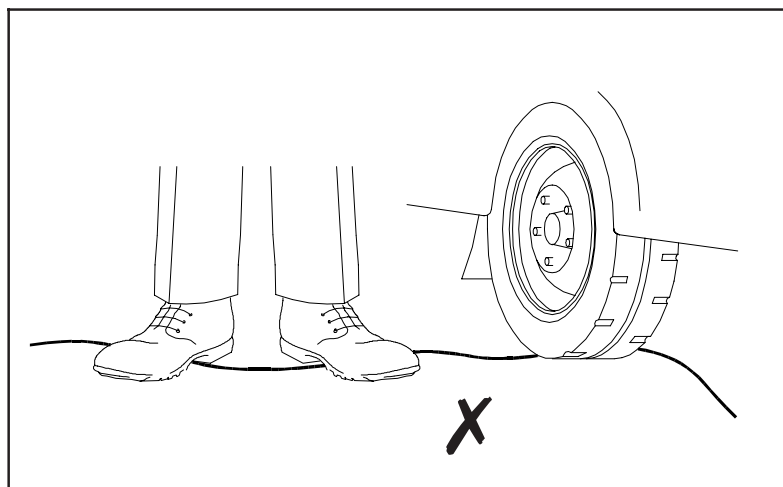

Figure 2
2. Sensor cable deployed and ready for fixing to a fence must be protected from damage by persons walking on the cable or vehicles driving over the cable. Figure 2 illustrates typical maltreatment of sensor cable which must *not* occur. Sensor cable subjected to such treatment will be damaged beyond repair and will prove costly to replace as sensitivity can only be verified after attachment to the fence.